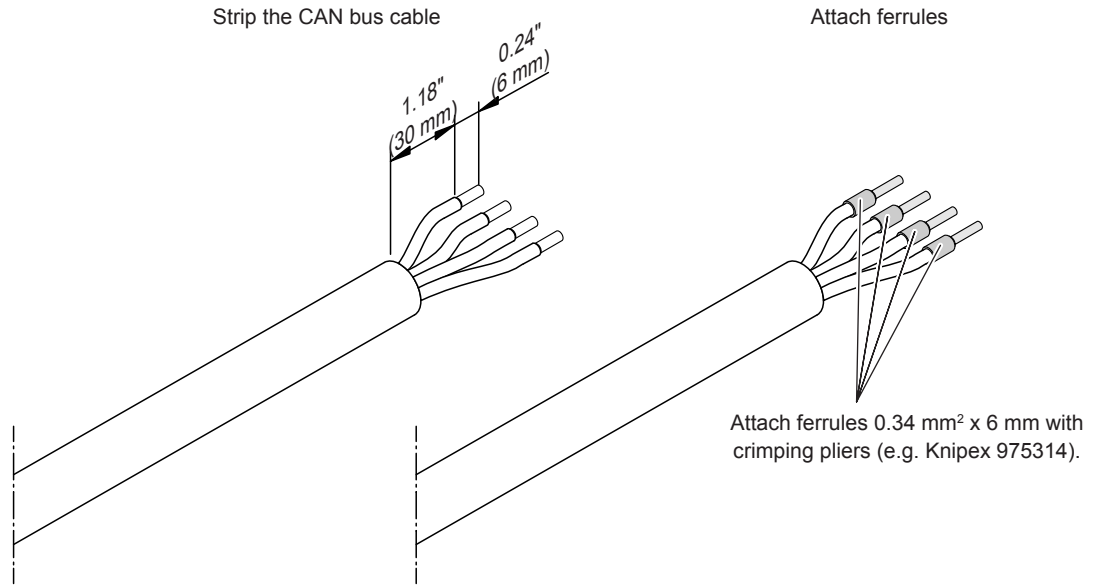

Fig. 21: Preparing cable(s)
- Prepare the CAN bus cable(s) to be connected to the drain module(s) according to Fig. 21.